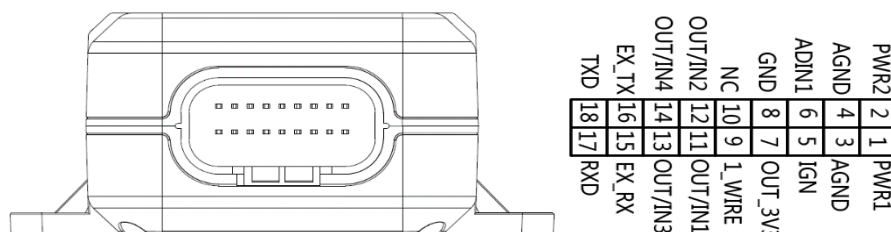

Figure 1. The 18-pin Connector on the GV600WG
2. Tighten the screws sufficiently until the rubber ring is squeezed out as shown in the following figure 1.